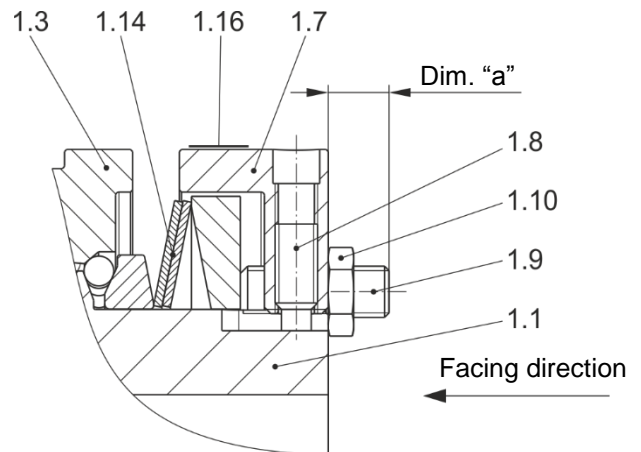

Fig. 6
Torque Adjustment (Figs. 6 and 7)
Adjustment is carried out via dimension "a" by turning the set screws (Item 1.9, Fig. 2 and Fig. 6).
You should be facing the adjusting nut (1.7) as shown in Fig. 6.
- Find dimension "a" in the Adjustment Table (Item 1.16, Fig. 3). (The Adjustment Table (1.16) is glued onto the outer diameter of the adjusting nut (1.7), see Fig. 6).